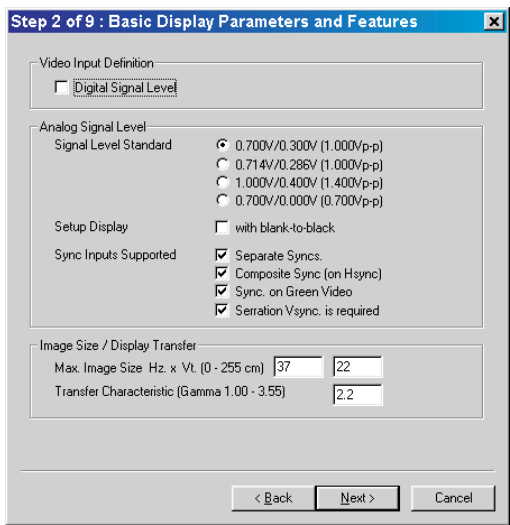

Fig. 19
1. Click Next , bring up Fig. 19.